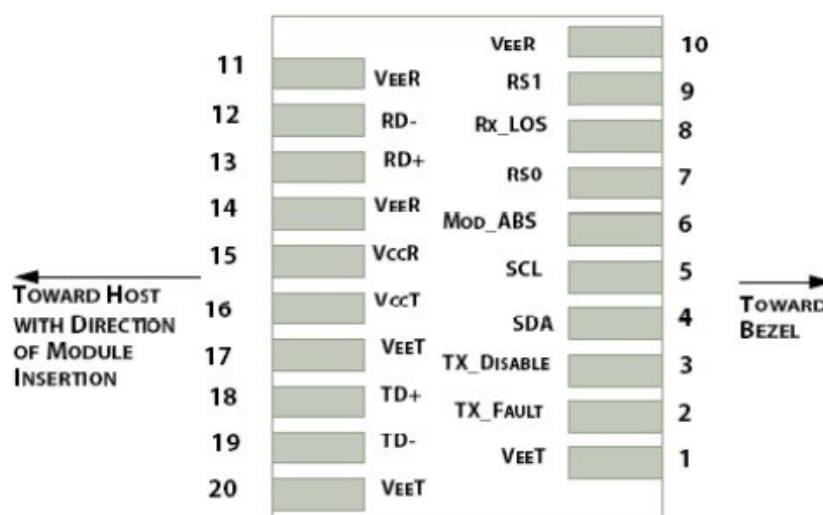
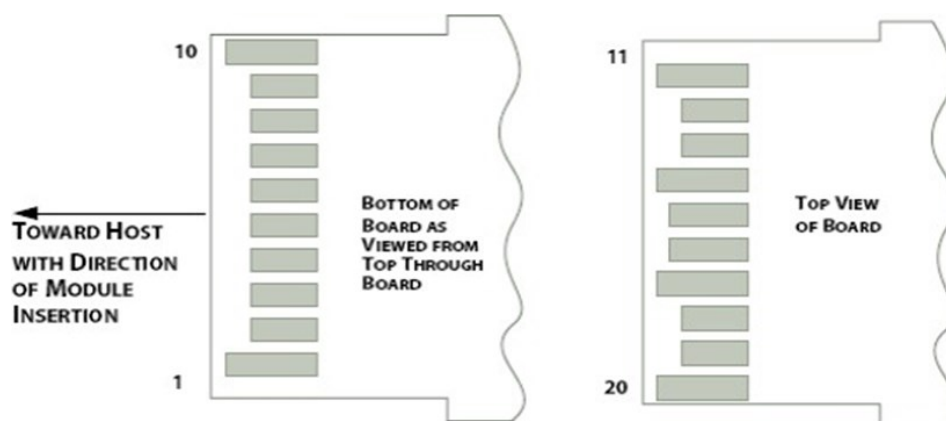

Figure 2. SFP28 Module Interface to Host
Figure 3. SFP28 Module Contact Assignment
2. VccRx, Vcc1 and VccTx are the receiving and transmission power suppliers and shall be applied concurrently. Recommended host board power supply filtering is shown in Figure 3 below. Vcc Rx, Vcc1 and Vcc Tx may be internally connected within the QSFP28 transceiver module in any combination. The connector pins are each rated for a maximum current of 1000mA.
The SFP28 modules are hot-pluggable. Hot pluggable refers to plugging in or unplugging a module while the host board is powered. The SFP28 host connector is a 0.8 mm pitch 20 position right angle improved connector specified by SFF-8083, or stacked connector with equivalent with equivalent electrical performance. Host PCB contact assignment is shown in Figure 2 and contact definitions are given in the PIN description table. SFP28 module contacts mates with the host in the order of ground, power, followed by signal as illustrated by Figure 3 and the contact sequence order listed in the PIN description table.